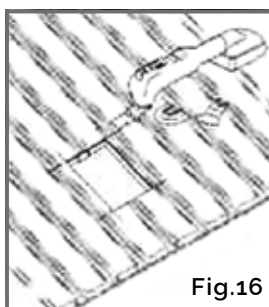

Fig.16
- Attach the sanding tool to the multifunctional device and smooth out any rough edges to ensure a clean fit for the socket. ( fig: 16 )